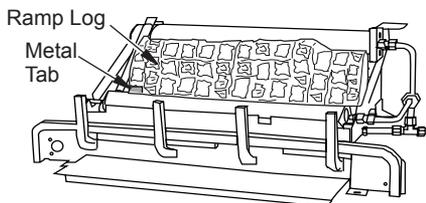

Figure 24 - Installing Fiber Ramp Log
1. Place fiber ramp log in center of chassis as shown in Figure 24. The fiber ramp log can be identified by the shape and much lighter weight when compared to the other logs. The log must sit flat on the black sheet metal and behind the left metal tab as shown. Make sure the side marked "BOTTOM" is setting down.